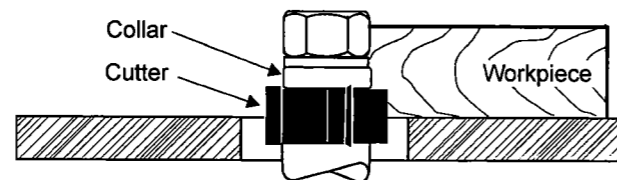

FIGURE 23
2. When the collar is used above the cutter, as shown in Figure 23, the cut cannot be seen. But this method offers an advantage in that the cut is not affected by slight variations in the thickness of the stock. Also, accidental lifting of the workpiece will not gouge the workpiece; simply repeat the operation to correct the mistake.